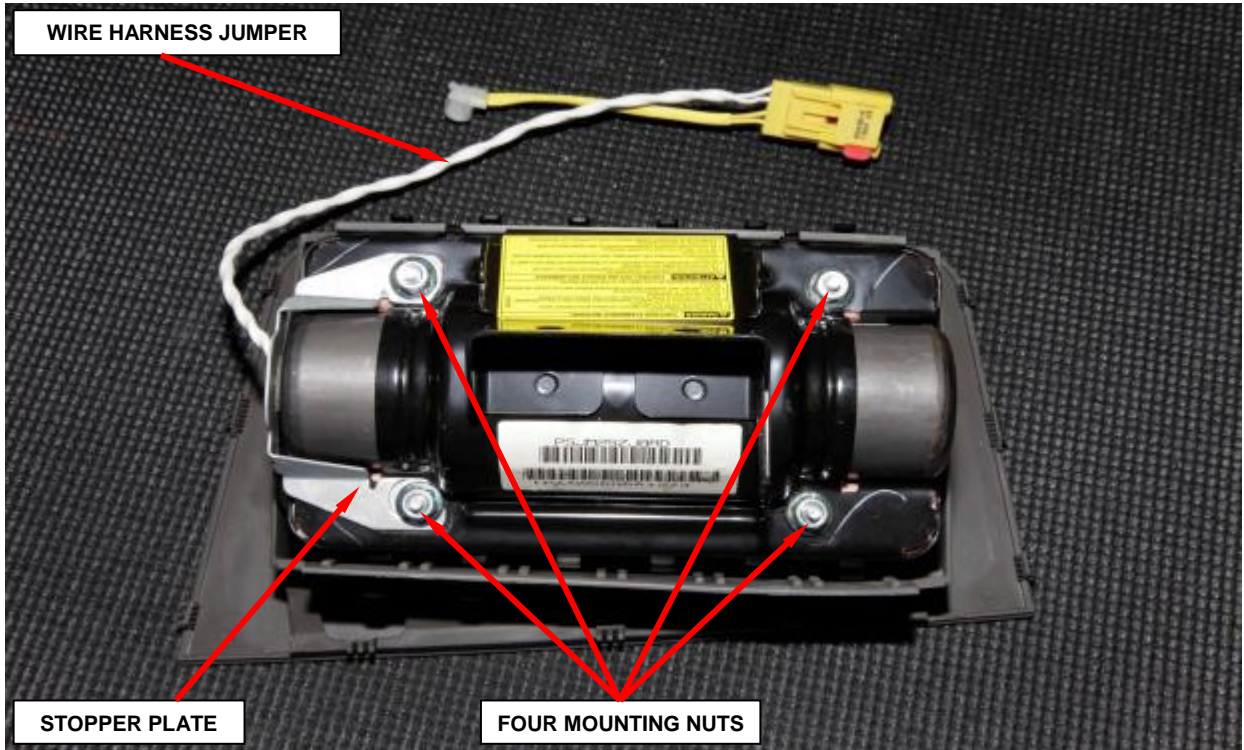

Figure 23 – Mounting Nuts and Stopper Plate
- e. Remove and **discard** the four mounting nuts and remove and save the stopper plate from the housing (Figure 23)